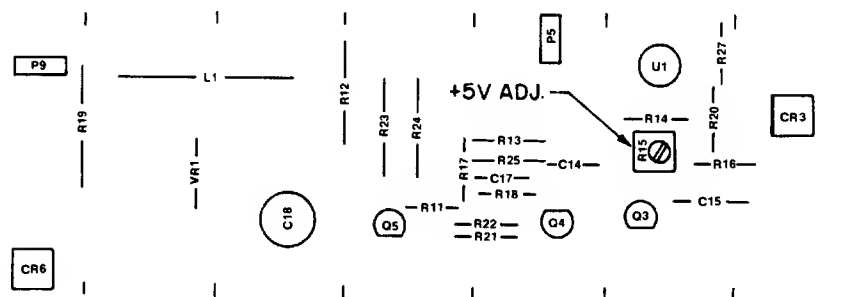

Figure 5-2. +5 V Adjustment Location on Power Supply
- e. Adjust A5R15 (figure 5-2) until DVM indicates +4.95 V (limits +4.93 to +4.97 V).